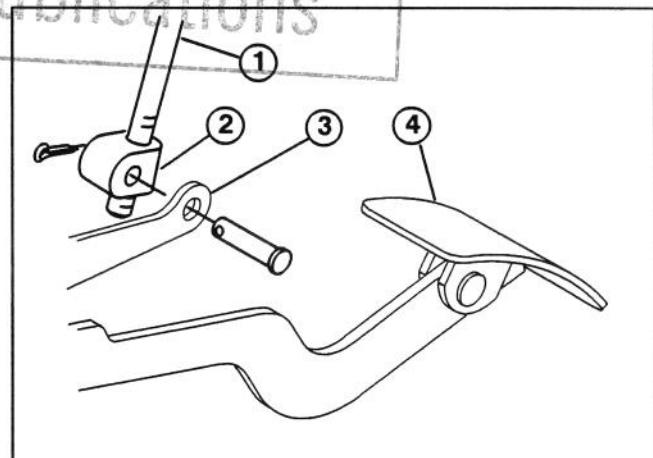

Figure 4
9. While holding up hand throttle rod, rotate plastic rod fitting, on rod, up or down until holes in fitting align with hole in accelerator arm (Fig. 4). Secure fitting to accelerator arm with clevis pin and cotter pin.